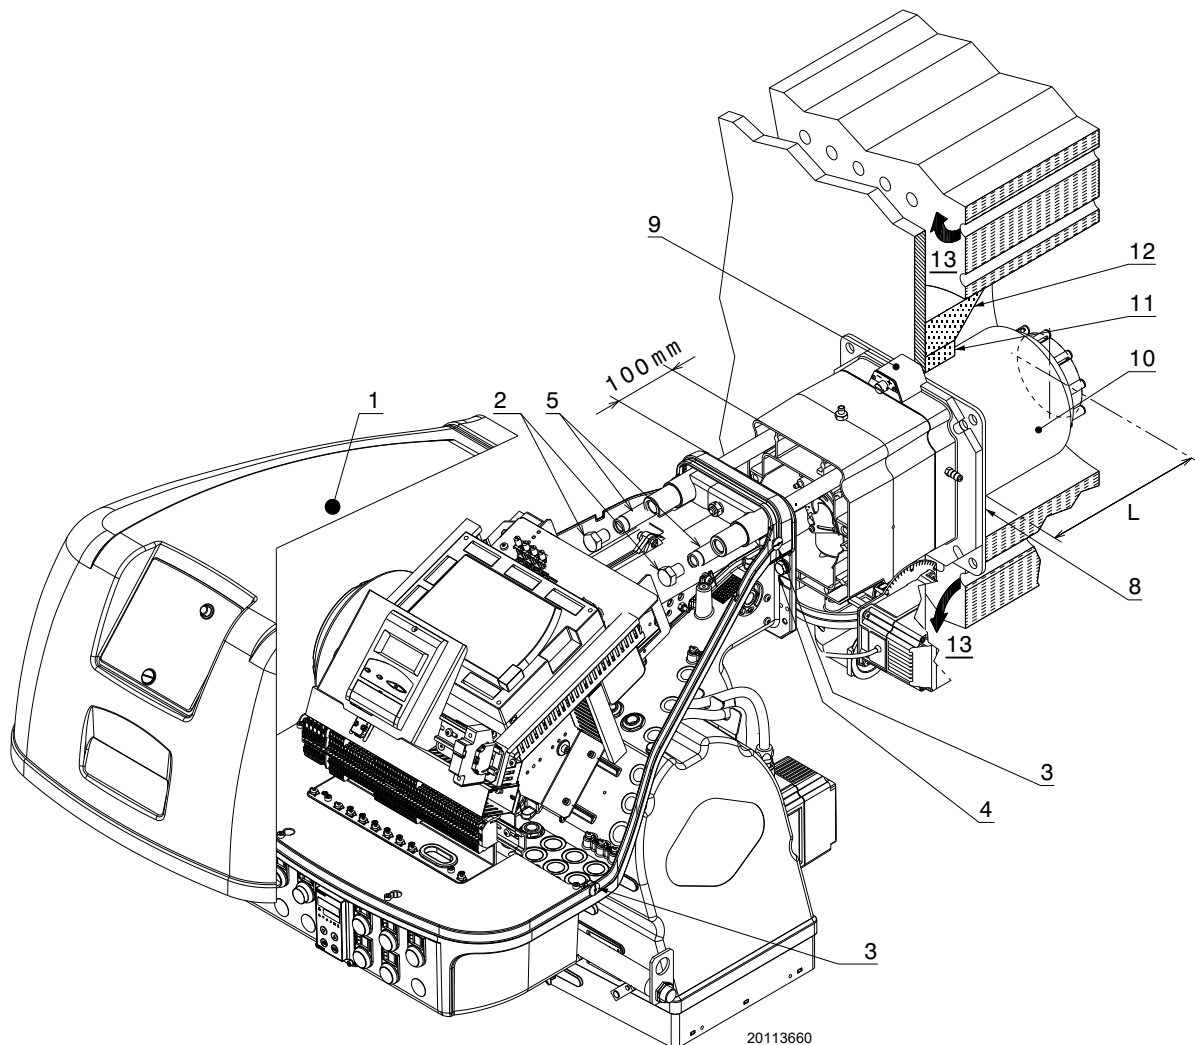

Fig. 17
For boilers with front flue passes 13)(Fig. 17 at page 23), or flame inversion chambers, a protection in refractory material 11) must be inserted between the boiler refractory 12) and the blast tube 10).
For boilers with a water-cooled frontal, a refractory cover is not necessary 11)-12)(Fig. 17), unless expressly requested by the boiler manufacturer.
Separate the combustion head from the rest of the burner, as in Fig. 17; proceed as follows:
- reassemble the burner on the guides 3) at about 100 mm from the pipe coupling 4) - burner in the position shown in Fig. 17;